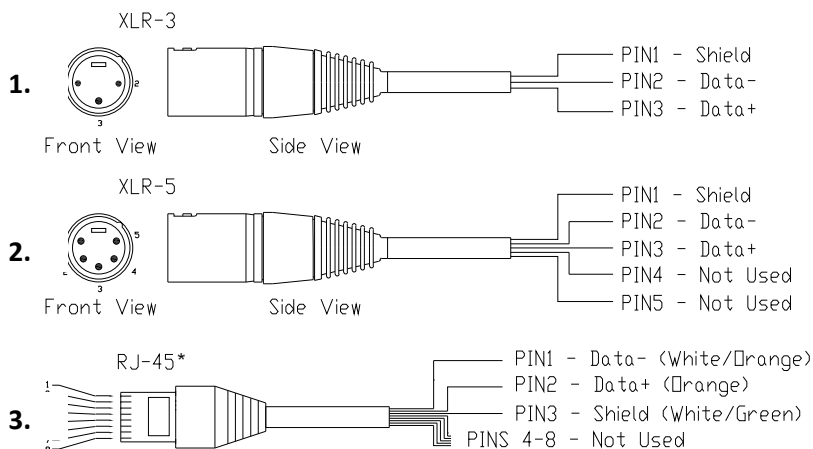

FIGURE 4: Standard DMX connectors and pin-data layout
- XLR-3 (Figure 4, Item 1)
- XLR-5 (Figure 4, Item 2)
- RJ-45 (Figure 4, Item 3)